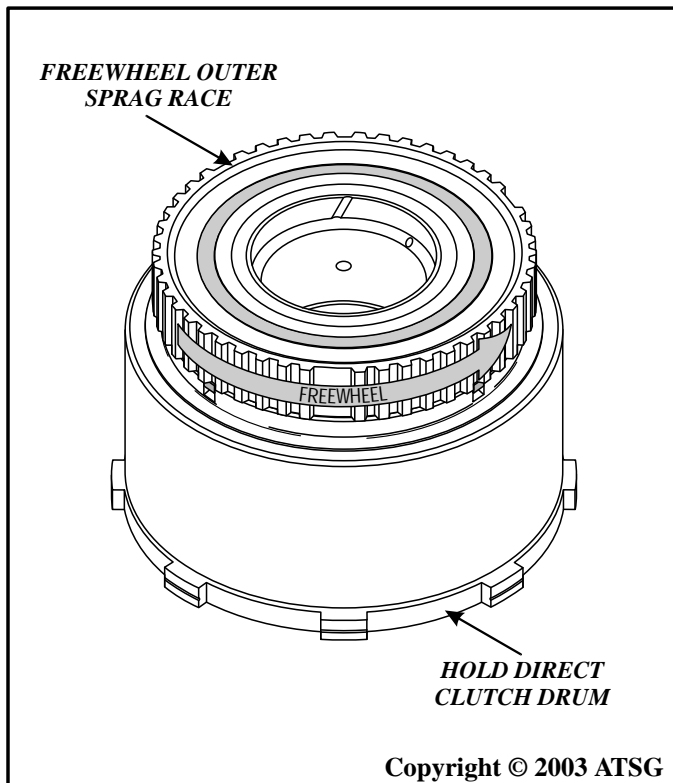

Figure 116
9. After installing intermediate sprag assembly, check to ensure proper operation, as shown in Figure 116.
- Note:** *Outer sprag race should freewheel counter-clockwise and lock clockwise, as shown in Figure 116.*